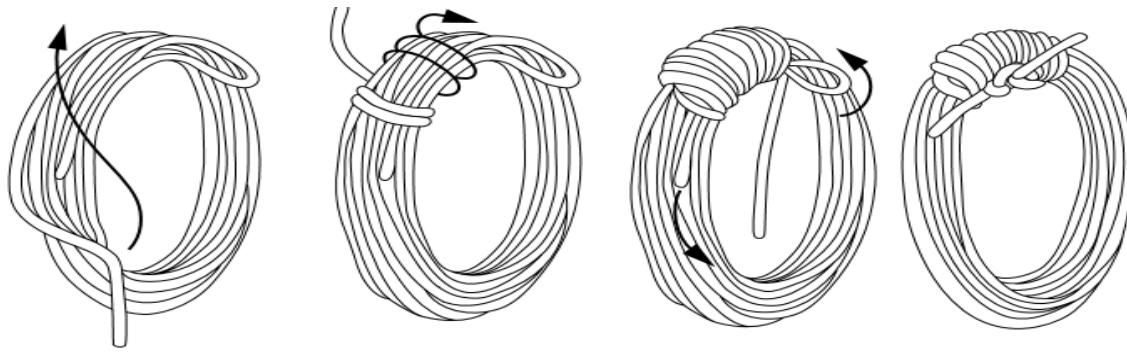

Figure 2-2. Mountain Coil.
1. Mountain Coil: The mountain coil is the least preferred method of coiling a rope because the rope tends to tangle up during uncoiling (see fig. 2-2).